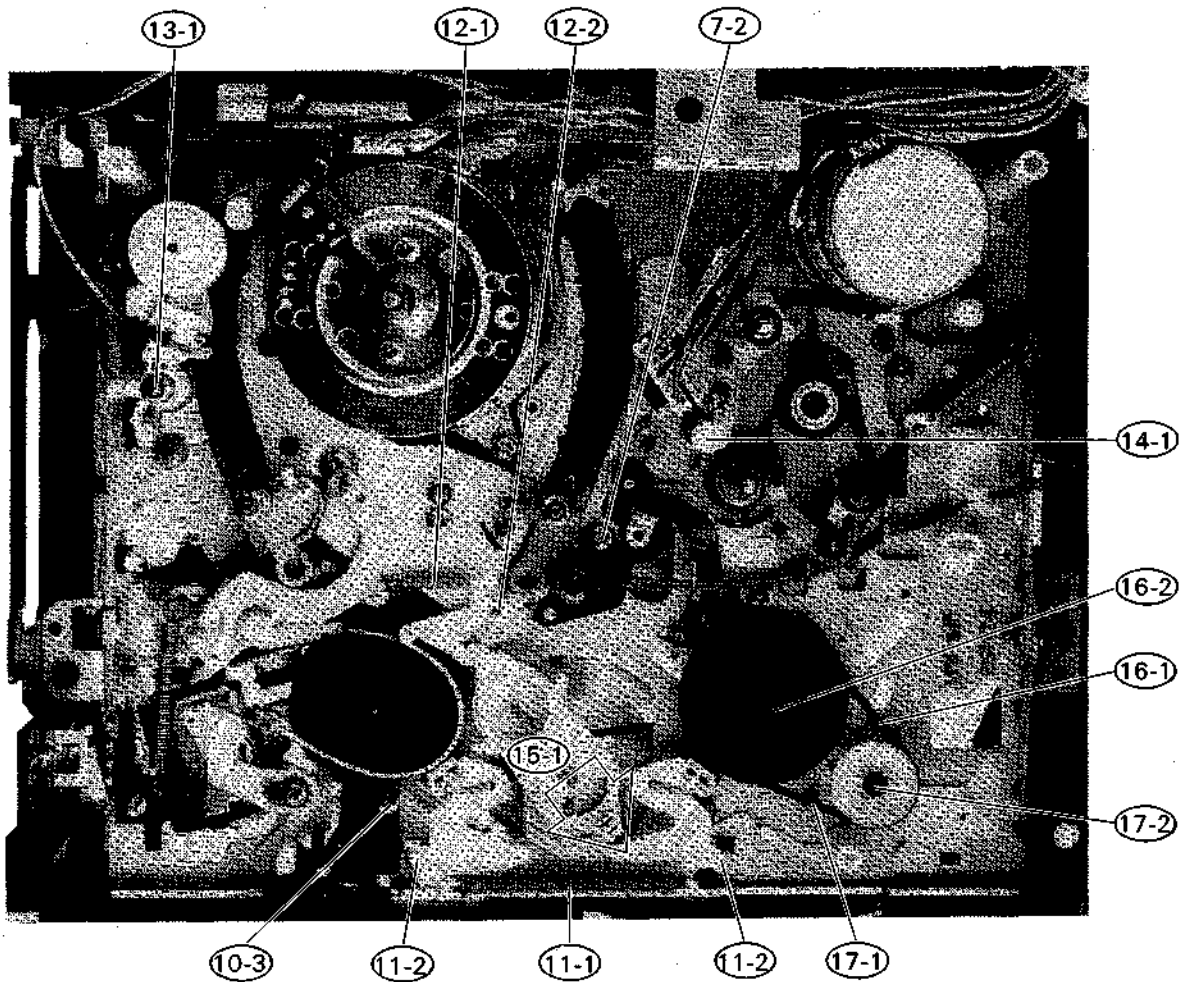

Fig. 13 Top View of Mechanism
* Components in items 11 to 17 are described as if the top cover has already been removed. See item 2 in the section on case removal.
11. Main Brakes (Fig. 13)
12. Supply Subbrake (Fig. 13)
13. Supply Guide Pole (Fig. 13)
14. Take-up Guide Pole (Fig. 13)
15. Reel Drive Gear (Fig. 13)
16. Take-up Reel Disk (Fig. 13)
17. Load Pulley (Fig. 13)